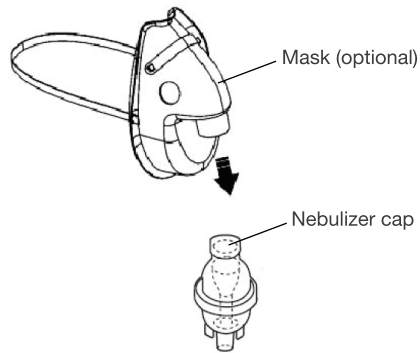

Figure 4
7. If using the mask (optional), press it directly into the nebulizer cap. (Figure 4)